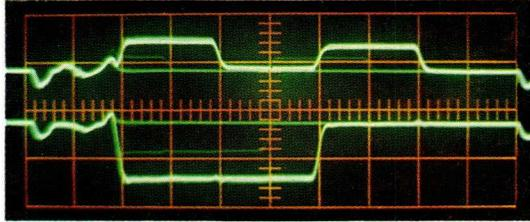

Fig. VII-33. Both demodulators adjusted correctly
- Adjust both demodulator phases to obtain an oscillogram as shown in Fig. VII-33.